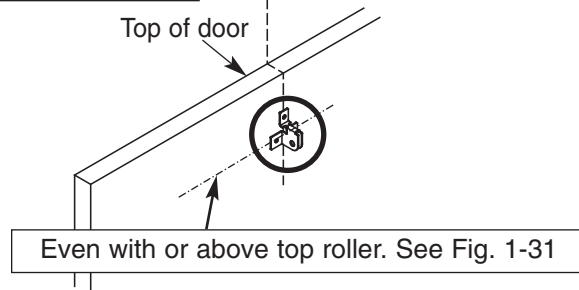

Fig. 1-30A Install Door Bracket
11. Install door bracket (Fig. 1-30A).